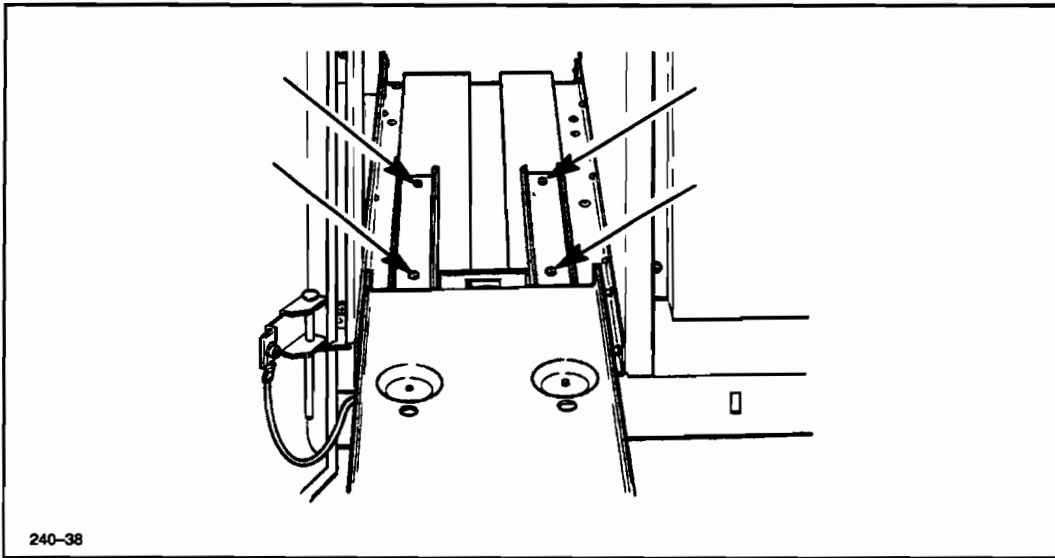

Figure 6-55. Slide Bracket Removal
7. Remove the four slide bracket mounting screws and remove the slide bracket. See Figure 6-55.